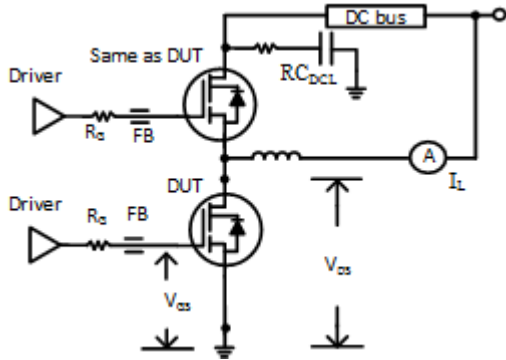

Figure 14. Switching Time Test Circuit
**Simplified Half-bridge Schematic ( See also on Figure 14 )**